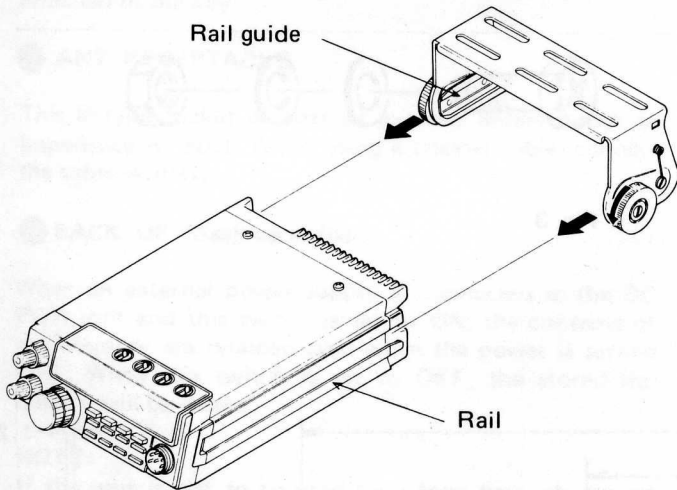

Fig. 5
- (4) Turn the right and left knobs of the bracket counterclockwise and insert the rail guide into the rail (Fig. 5).